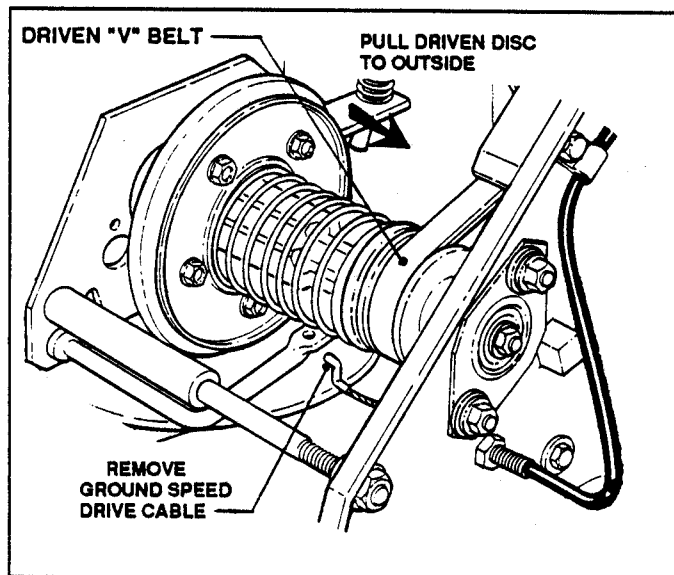
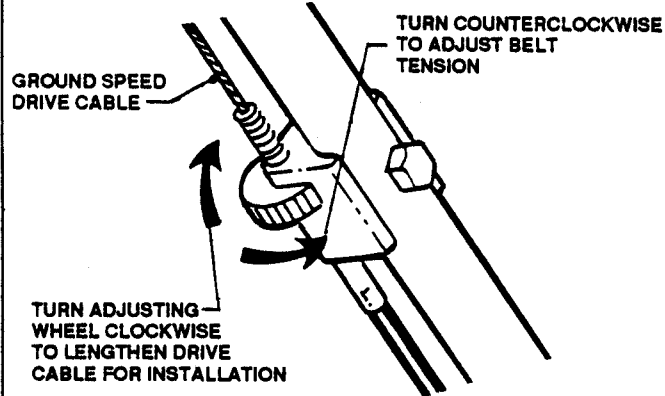

FIGURE 16
FIGURE 22
4. Remove Ground Speed Drive Cable as shown in Figure 16.
Before reattaching Ground Speed Drive Cable (Refer to Figure 16), the Adjusting Wheel should be turned clockwise to lengthen the cable for easier installation. After the cable has been attached, rotate the Adjusting Wheel counterclockwise until the Drive Belt has enough tension to power the mower. **DO NOT OVER-TENSION BELT!** See Figure 22.